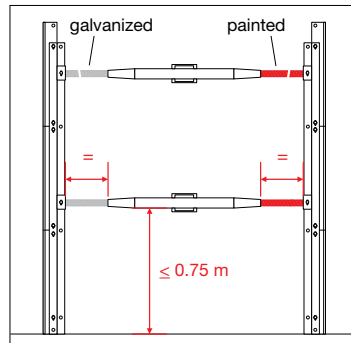

Fig. 3
- Both spindles of every trench strut must be extended by the same amount (Fig. 3).
- Fix all the galvanised spindles of the trench struts to one side of the shoring system, all painted spindles to the opposite side (Fig. 3).